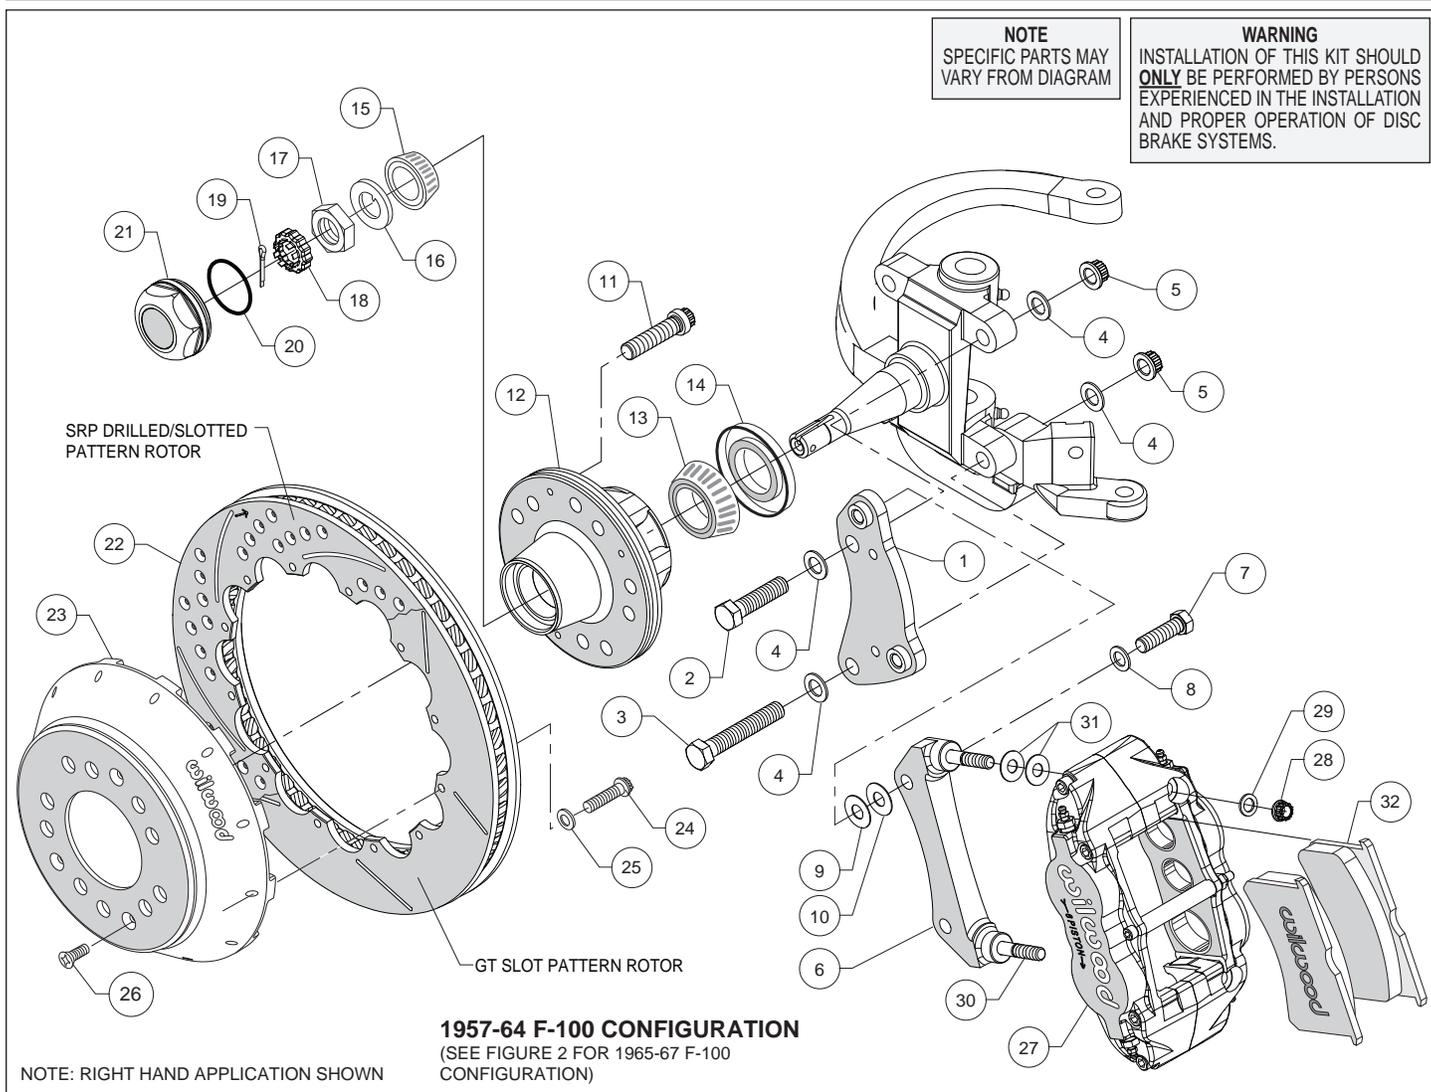
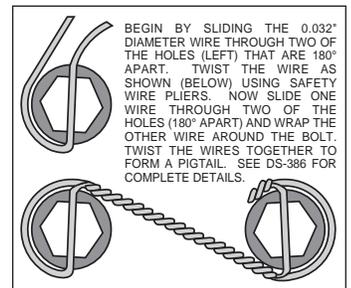
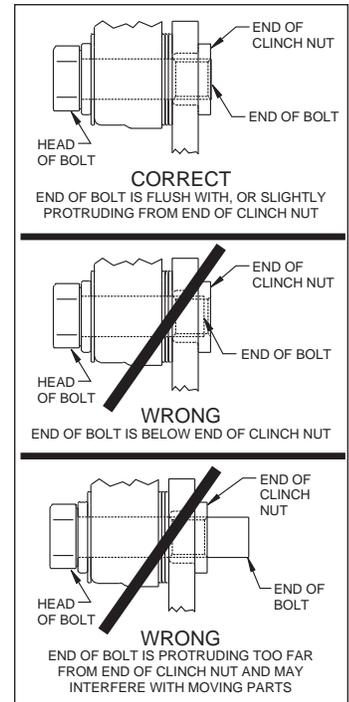

Figure 1. Typical Installation Configuration, Model Years 1957-1964
Figure 4. Safety Wire Diagram
Figure 5. Clinch Nut Engagement Diagram
Assembly Instructions (numbers in parenthesis refer to the parts list, on the preceding page and Figures 1 and 2). **CAUTION:** All mounting bolts must fully engage clinch nuts. Be sure to check that all bolts are either flush or protruding through flanged side of clinch nut after shimming, Figure 5.
- Orient the spindle bracket (1) as shown in Figure 1 or 2, and Photo 1, and install using bolts (2 and 3), washers (4) and nuts (5). Temporarily tighten the mounting bolts. Ensure that the flanged heads of the clinch nuts in the bracket are facing outboard, Photo 1. **NOTE:** The bracket must fit squarely against the mount bosses on the upright. Inspect for interference from casting irregularities, machining ridges, burrs, etc. Torque lock nuts (5) to 65 ft-lb.
- The caliper mount radial bracket (6) should initially be installed with clean, dry threads on the mounting bolts. Orient the bracket as shown in Figure 1 or 2, and Photo 2. Install onto the spindle bracket using bolts (7), and washers (8). Initially place one .030 thick shims (9) on each bolt between the radial and spindle brackets, Figure 1 or 2. Temporarily tighten the mounting bolts. Later, after the caliper alignment has been checked, the mount bolts will be secured using red *Loctite*® 271.
- Screw dust cap (21) into hub (12), Photo 8. Friction created by the o-ring (20) on the dust cap keeps it from unscrewing. **NOTE:** *The O.D. of the existing OEM spindle washer may be larger than the I.D. of the dust cap not allowing it to seat against the hub face. Therefore, use the spindle washer (16) supplied with the kit instead of the OEM washer.*
- Orient the rotor (22) and the hat (23) as shown in Figure 1 or 2 and Photo 9. Attach rotor to hat using bolts (24) and washers (25). Using an alternating sequence, apply red *Loctite*[®] 271 to the threads, and torque to 155 in-lbs. For an added measure of security, the bolts may be safety wired using standard 0.032 inch diameter stainless steel safety wire as shown in Figure 4. Refer to Wilwood's data sheet DS-386 (available at www.wilwood.com/Pdf/DataSheets/ds386.pdf) for complete safety wire installation instructions.
- **NOTE:** *This kit contains distinct right and left hand calipers that must be mounted in a specific direction, as described below.* Lubricate the caliper mounting studs (30) with lightweight oil. Initially place two .035" thick shims (31) on each stud between the caliper and the bracket, as shown in Figure 1 or 2, and Photo 11. Mount the caliper (27) onto the bracket (6) using lock nuts (28) and washers (29), Figure 1 or 2. Ensure that the caliper is mounted so the largest pistons are at the rotor exit end of the caliper, in relation to the direction of rotor rotation. Temporarily tighten the lock nuts and view the rotor through the top opening of the caliper. The rotor should be centered in the caliper, Photo 12. If not, adjust by adding or subtracting shims (9 and/or 10)